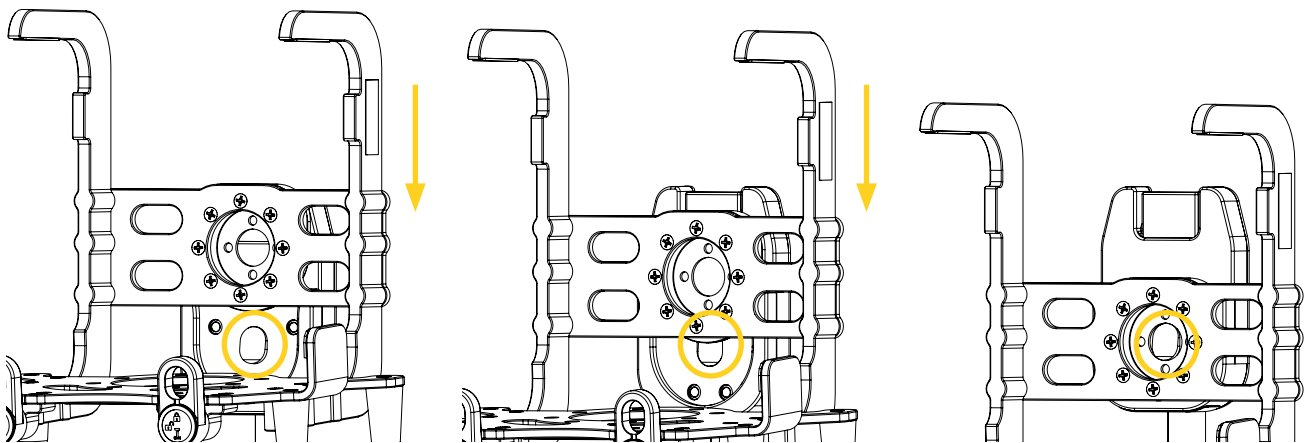
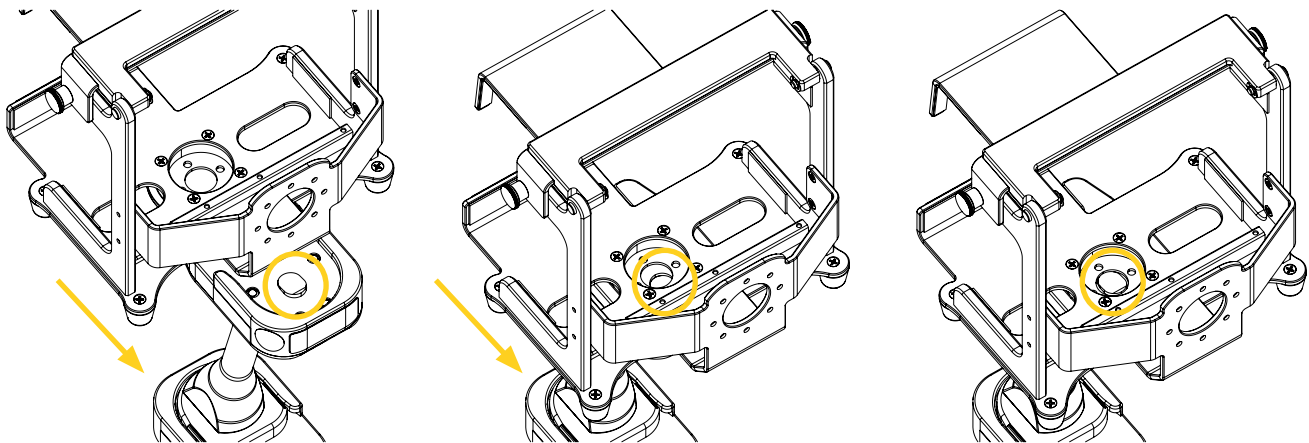

Figure 7: Locking the Safety MD-Transporter (vertical, standard/short)
Figure 8: Locking the Safety MD-Transporter (horizontal, angular)
- **To lock** the Safety MD-Transporter, align and insert the micro disc located at the back of the mounting bracket in the Micro Base vertically (Figure 7) or the or anti-rotation micro disc located under the mounting bracket in the Micro Base horizontally (Figure 8) until you hear the click sound.